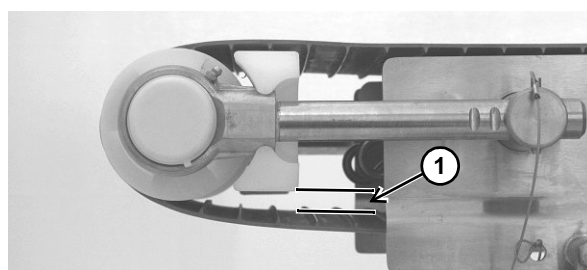

Figure 36
- Some belt sag (Figure 36, item 1) is required for proper operation.